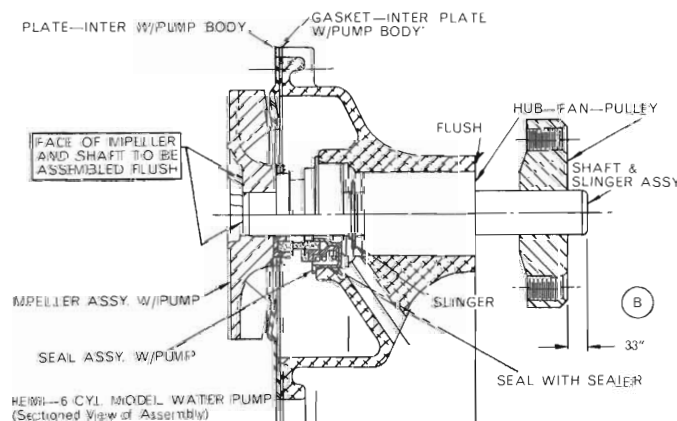

Fig. 8 - Hemi 6 Cyl. Early Type Impellor Water Pump Assembly (sectioned view)
push the shaft assembly into the bore until the bearing is flush with the front face with the pump body supported on the gasket face (refer Fig. 8).
(8) Apply gasket cement to the body and plate gasket surfaces and install the body gasket and plate to the body (with raised area away from the body).
(9) Insert the ceramic seal into the rubber support, then install the support ring over the rubber.
(10) Lubricate the seal and shaft using a multi-purpose bearing lubricant with the ceramic seal facing inward (away from impeller) and against the seal cartridge.
(11) Support the impeller shaft on a suitable support, then press the impeller onto the shaft being careful to press only on the inner hub area.
(12) Press the shaft until the shaft is flush with the impeller hub outer surface.
(13) Again using the pad to support the impeller and shaft, press the fan hub (flat side out) onto the shaft until the shaft protrudes through the hub. Install Tool E7C25A to correctly locate the fan hub on the shaft. Refer Fig. 8.